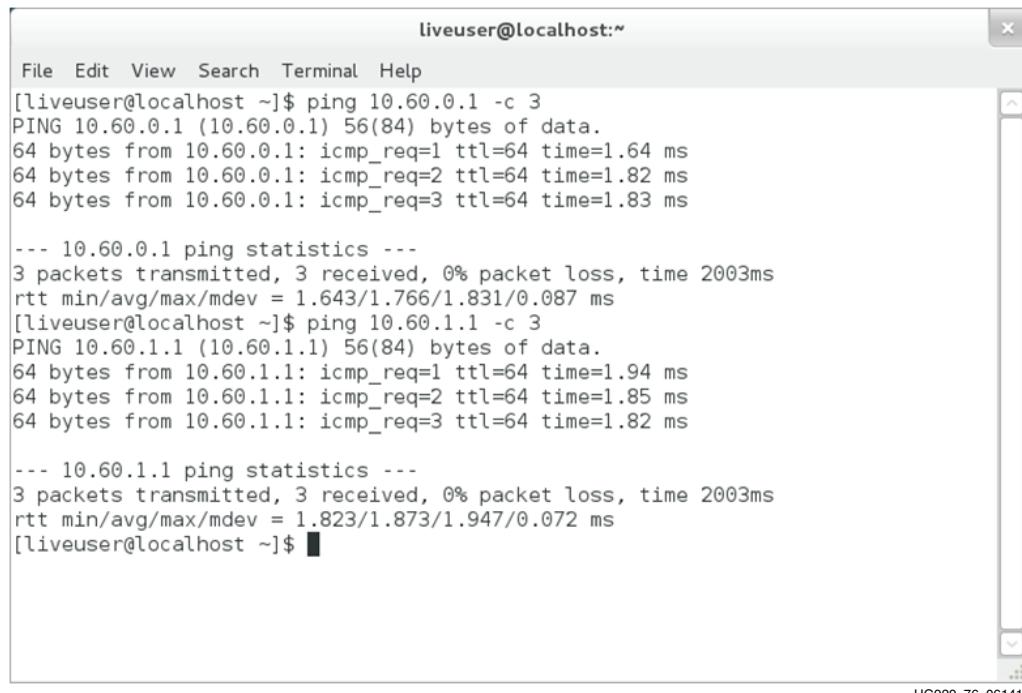

Figure 2-15: Application Mode Driver GUI
14. The GUI is invoked after the driver is installed. However, in application mode, the user cannot start or stop a test – the traffic is generated by the networking stack. The system monitor shows the system power and temperature (see Figure 2-15).